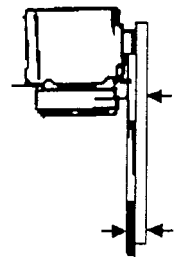

FIGURE 7
- Align belt by vertically centering motor pulley in-line with blower pulley (Figure 7).
cuts power consumption and prolongs life of belt and motor. When installing or adjusting belt, loosen the motor adjustment bolts and adjust for proper tension for each model as listed below. Do not tighten belt by adjusting motor pulley. Align belt vertically by centering motor pulley in-line with blower pulley (Figure 7).